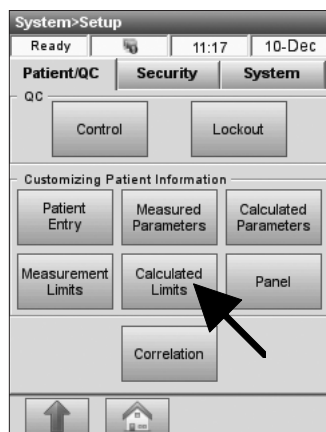

Fig. 3-30 Calculated Limits
1. In the main menu, select **<System Manager>** and **<Setup>**. Press **<Calculated Limits>** on the **<Patient/QC>** tab (Fig. 3-30).